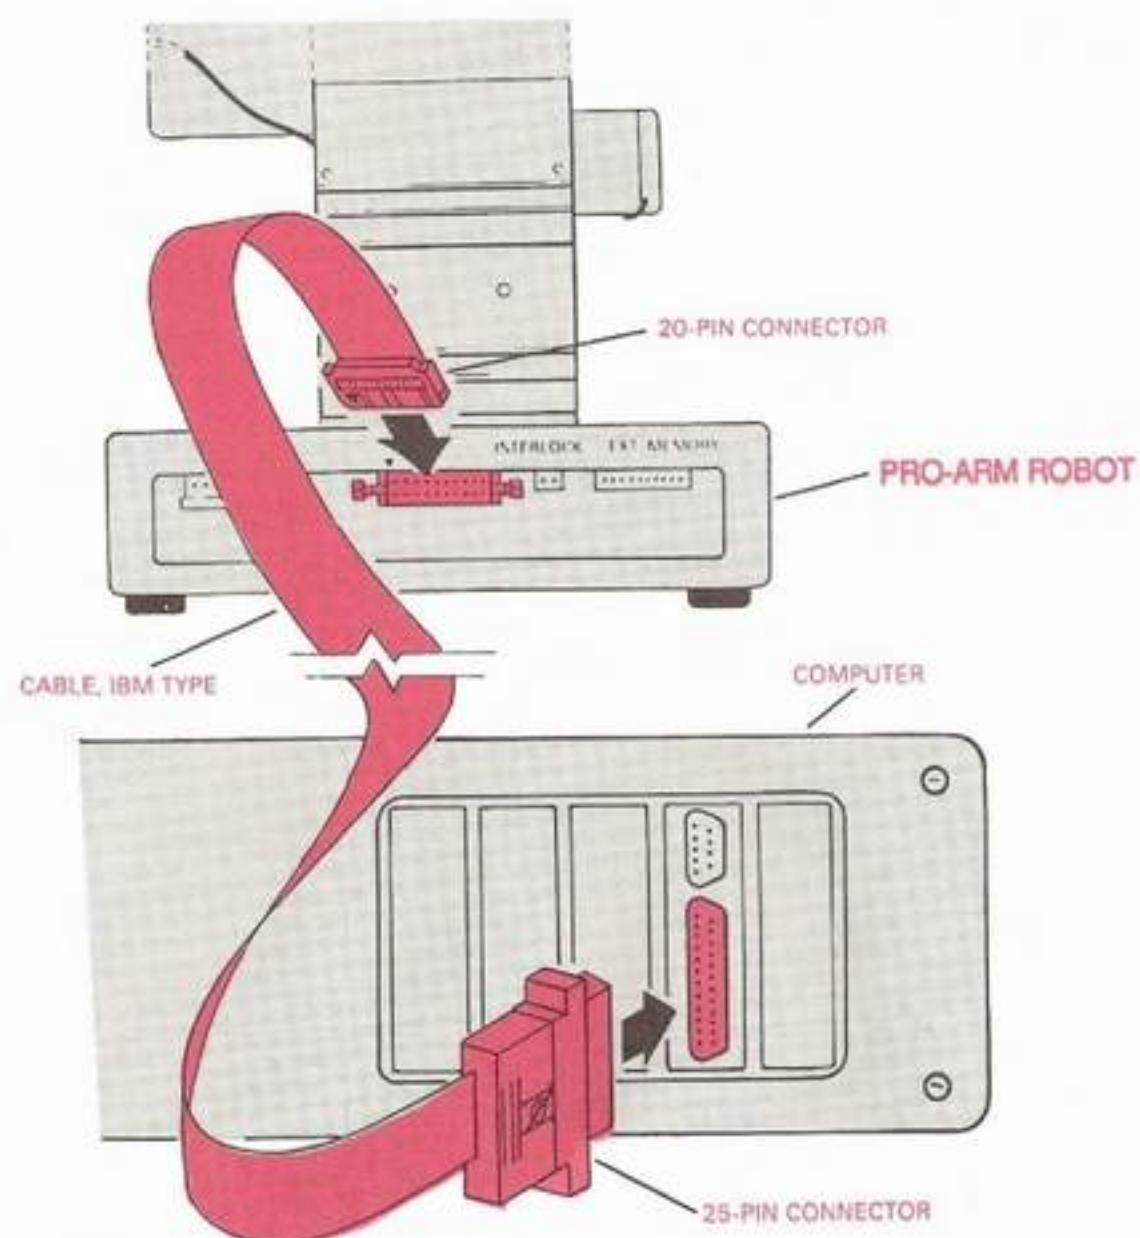

Fig. 4: Connecting the IBM-type Interface Cable
- d. Plug the 25-pin (D-shell) cable connector into the parallel-printer port connector on the rear of the computer. (Refer to Fig. 4.)
- e. Plug the 20-pin connector into the input connector marked "COMPUTER", on the back of the Pro-Arm's base, matching the arrow on the connector with the arrow marking on the robot. The connector can be inserted in only one direction. Again, refer to Fig. 4.